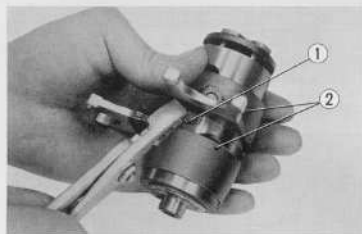

Fig. 3.98 Removing the gear shift fork
8. Remove the gear shift guide pin clip ① and pull out the gear shift fork guide pin; the gear shift fork ② can be disassembled from the gear shift drum. (Fig. 3.98)